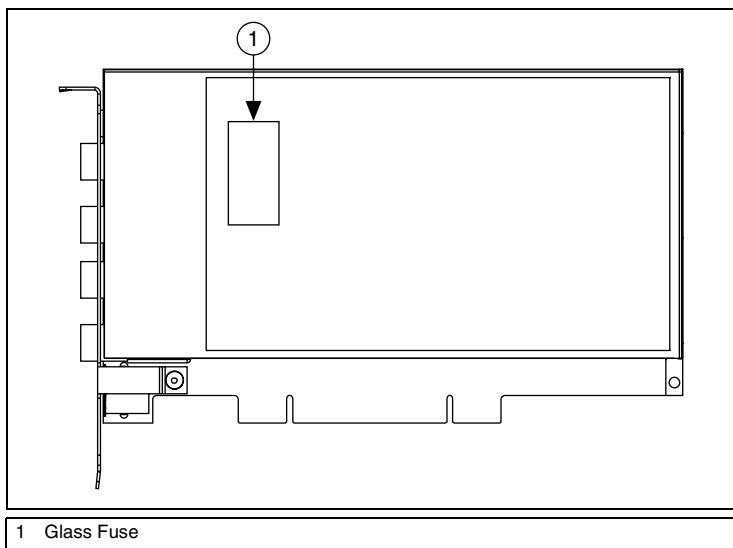

Figure 17. Removing the Fuse from the NI PCI-4060
5. Locate the 5×20 mm glass fuse shown in Figure 17.